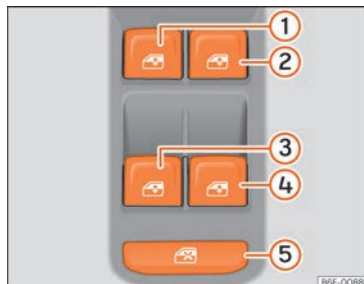

Fig. 147 Detail of the driver door: controls for the windows.
The safety switch » » » **Fig. 147 ⑤** on the driver door can be used to disable the electric window buttons on the rear doors.
Buttons » » » **Fig. 147** ①, ②, ③ and ④ have two positions for opening windows and two for closing them. This makes it easier to open and close windows to the desired position.